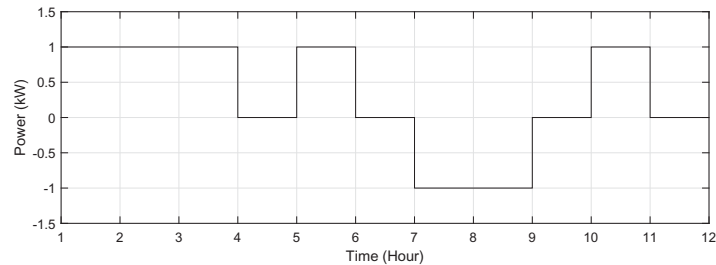

Figure 1.19 The charge-discharge power profile of the storage unit in Exercise 1.14.
1.14 Consider the charge-discharge power profile of a 15 kWh energy storage system over a period of 12 hours, as shown in Figure 1.19. A positive power value indicates a charge action, and a negative power value indicates a discharge action. The energy storage system is ideal, meaning that it has 100% charge efficiency and 100% discharge efficiency. The initial state-of-charge (SoC) at the beginning of this time frame, i.e., at time zero, is 20%. Plot the SoC curve in percentage over this time period.